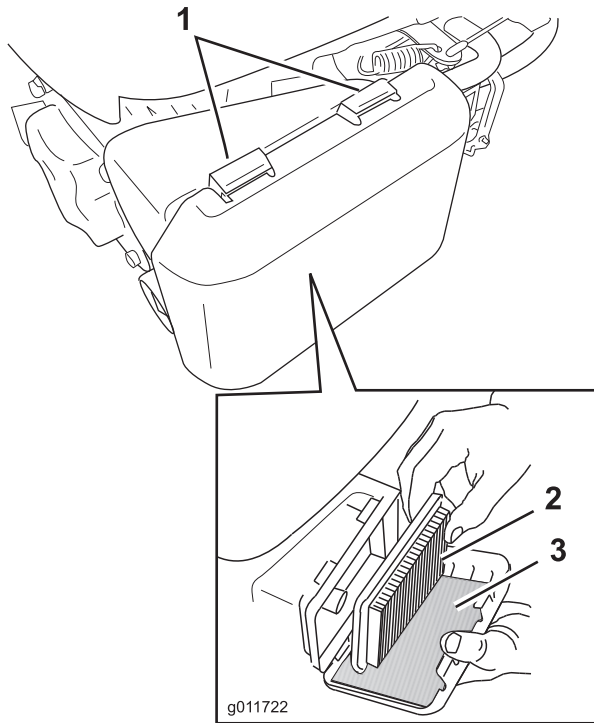

Figure 31
1. Press down on the latch tabs on top of the air cleaner cover (Figure 31).
3. Remove the paper air filter and the foam pre-filter (Figure 31).